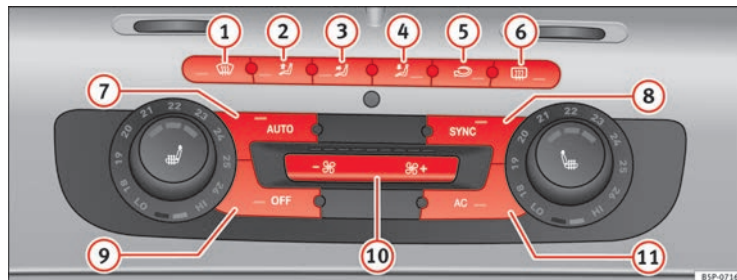

Fig. 132 On the dash panel: 2C Climatronic controls. ►
- To enter manual mode, press one of the buttons ⇒ Fig. 132 ① to ⑤ or press the air flow control ⑩. The selected function is shown on the radio or navigator display.
- Press the button  ⇒ Fig. 132 ② to switch air recirculation mode on or off. It is switched on if the following symbol appears in the display .